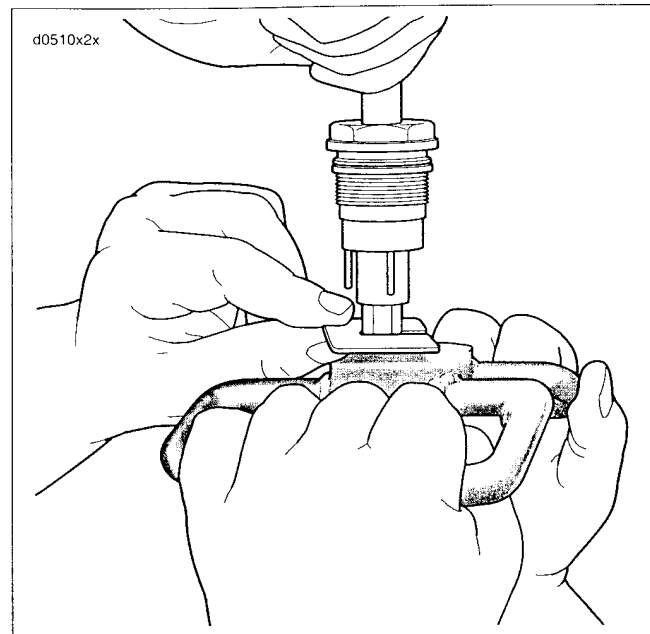

Figure 2-88. Compressing Fork Spring
3. Unthread the fork cap (5) from the fork tube and allow the fork leg to drop, exposing the spring.
4. See Figure 2-88. Set the FORK SPRING COMPRESSION TOOL (Part No. HD-41549-A) on the spring collar. Turn screws in to engage holes in collar. Compress the spring until the SPRING PLATE TOOL (Part No. HD-41551) can be positioned between the spacer and the spring collar.